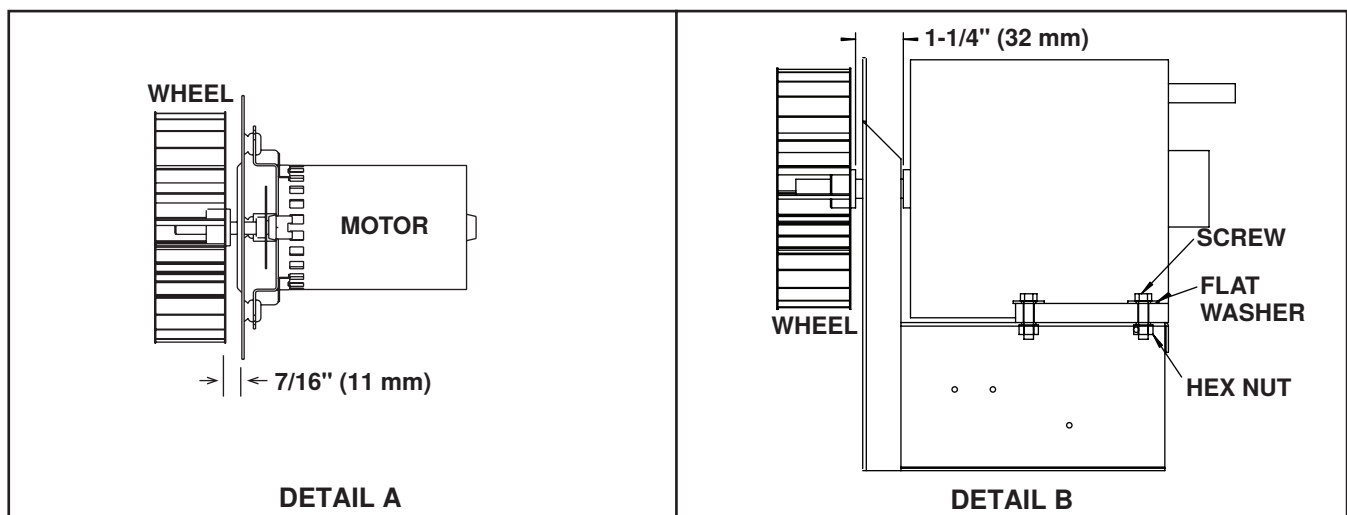

Figure 20. Venter Motor and Wheel Assemblies
5. Reassemble with replacement venter motor and wheel assembly (see Figure 20, DETAIL A for heat section venter or Figure 20, DETAIL B for flue collection box section venter).